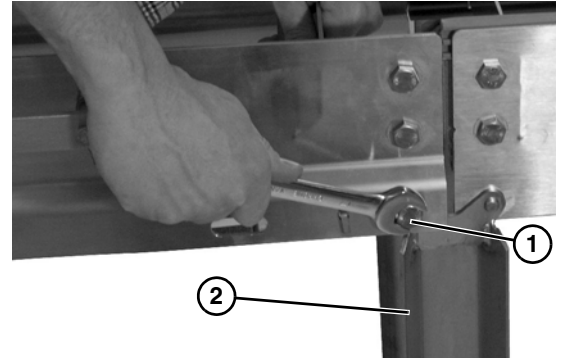

Figure 42
3. Remove hex head bolt (**Figure 42, item 1**) holding straight section frame to conveyor stand (**Figure 42, item 2**). Repeat on opposite side.